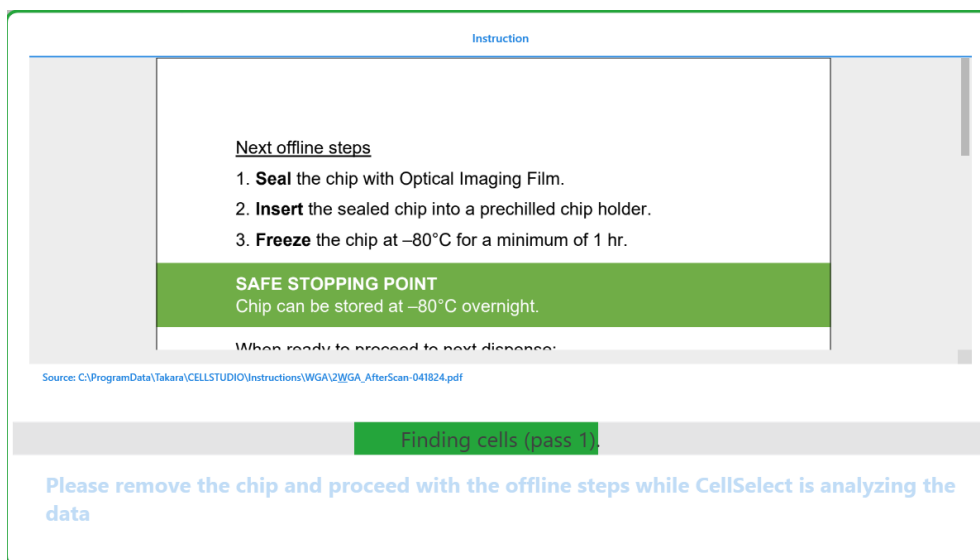

Figure 11. Setting up the 384-Well Source Plate for dispensing cell samples and controls.
1. After image acquisition is completed (Section X), the instrument door will be unlocked, and CellSelect is triggered automatically to detect single-cell candidates. A screen similar to the one in Figure 11 will display in the CELLSTUDIO software: